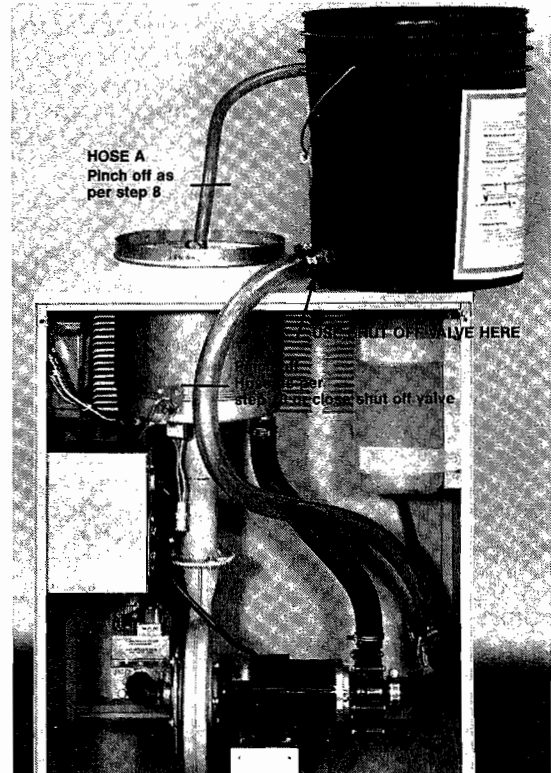

FIGURE 37
8. Pinch off the hoses between the module top and the expansion tank A plus the hose B (See Figure 37 and 38 for hoses A and B) between the charging tee and the vent tube to the expansion tank.
Let the pump continue to circulate the solution and purge air into the expansion tank. When the expansion tank is $\frac{3}{4}$ three quarters full, pinch off the hose C or close the valve on the bucket. (See Figure 37).
12. Partially open the pinch-off on hose A — Figure 37. This will remove the air that might be collected in the top of the module. When all air is completely out of the system, again pinch off hose A and open the disconnect switch for the outdoor unit.